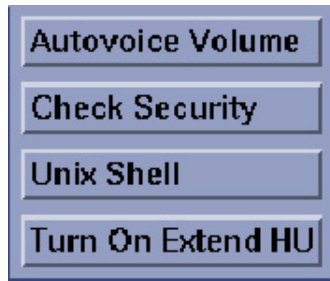

Figure 5-23 Turn On Extend HU
- 1.) Click on the TURN ON EXTEND HU button. See Figure 5-23